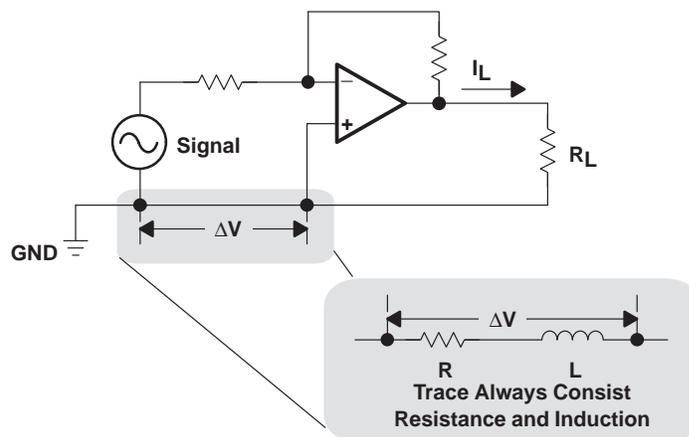

Figure 3. Sharing of Ground Lines
- The ground path of the input signal provides a potential for noise injection into the signal because the signal is typically referenced to ground. If the ground path is used by more than one signal they might interfere with each other. In Figure 3, the same ground trace is used by the input and the output signal. A high output current (I_L) leads to a voltage drop of ΔV on the line impedance. In accordance with Ohm's Law, this increases proportionally to the load current. The voltage drop is an additional input signal for the amplifier, and with a high gain, the voltage drop can lead to positive feedback, causing the amplifier circuit to oscillate. Accordingly, it is advisable for circuit parts at high currents not to share signal traces with other parts. They should rather meet at a single point.